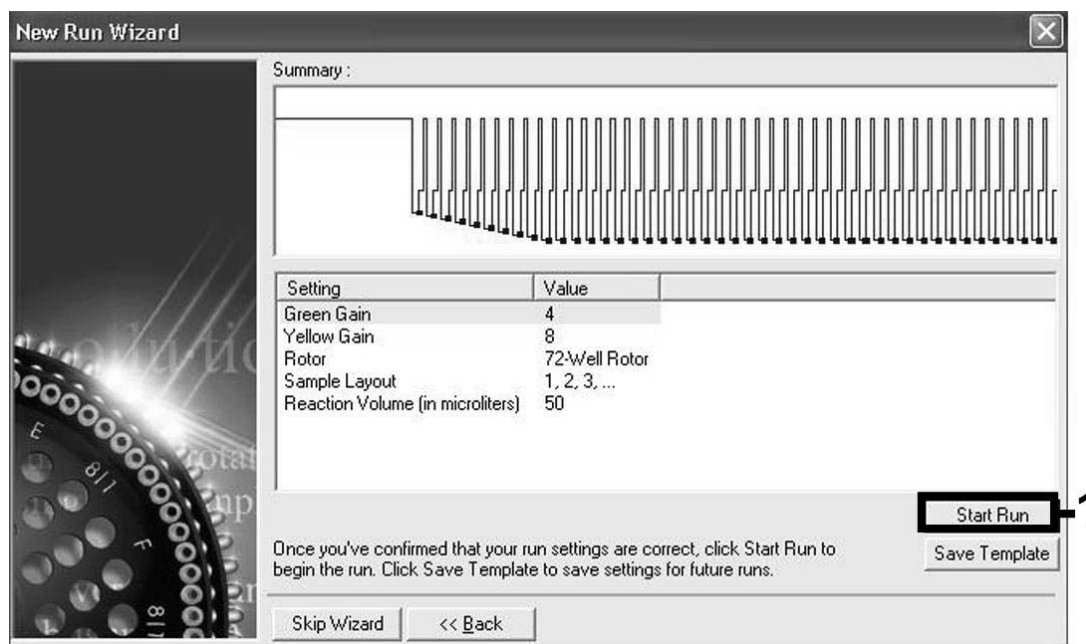

Figure 21. Starting the run.
| Starting the run | Figure 21 |
16. The gain values determined by the channel calibration (or manually assigned) are saved automatically and are listed in the last menu window of the programming procedure (Figure 21). Click "Start Run".